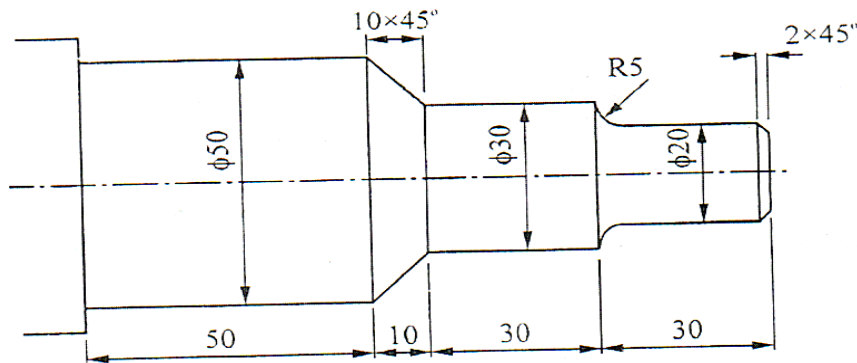

Fig. 4, Q No 8(b)
b) Write NC part program for the part shown in Fig.4. Assume suitable data. [12]